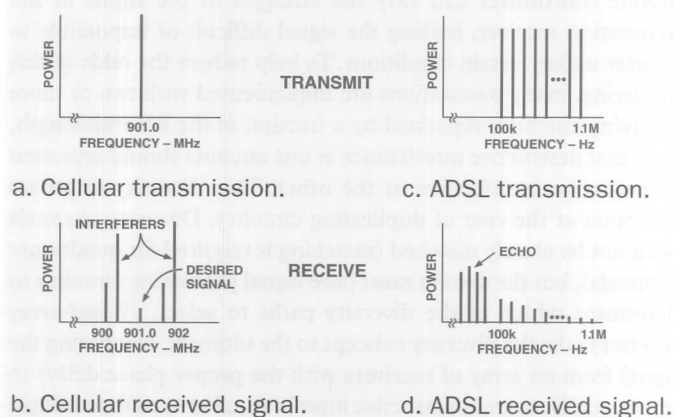

Figure 1. Transmitted and received spectra.
**System Constraints:** In a digital communications system, the function of the receiver circuitry is to recover the transmitted signal and process it for introduction to the demodulator, which then recovers the digital bits that constitute the transmitted message. As the last installment illustrates, obstacles to signal recovery show up as the signal travels through the transmission medium. These "impairments" can include signal attenuation, reflections, distortion, and the introduction of "interferers" (other signals sharing the transmission medium). The nature of the transmission impairments is a strong function of the medium (wireless, coaxial cable, or twisted pair wire), the communications scheme being used (TDMA, FDMA, CDMA, etc.) and the particular circumstances of the transmitter/receiver pair (distance, geography, weather, etc.). In any event, the important receiver design considerations are present to some extent in all receivers, simply to differing degrees. For this discussion, two examples will be used to illustrate the various receiver design issues. Figure 1 illustrates the relevant portions of the signal spectrum at the transmitter outputs and receiver inputs for two very different systems: a GSM cellular telephony application (Figure 1a and 1b) and an ADSL twisted-pair modem application (Figure 1c and 1d).